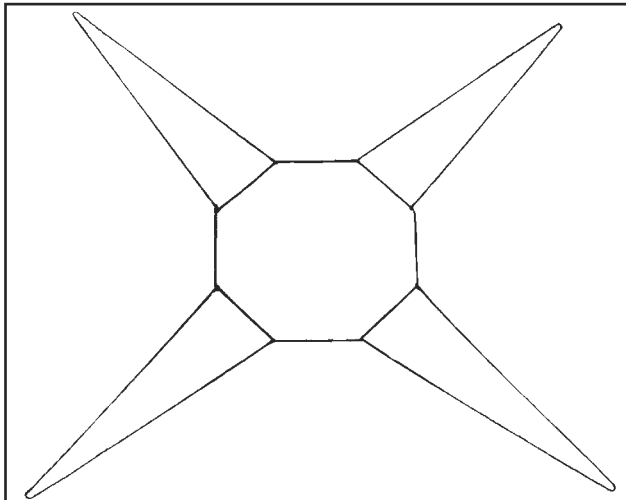

Figure 2 - Safety Guy-Wire Dispenser unfolded
1.01 Dispenser with all four legs unfolded ready to receive coil of strand. (Figure 2)